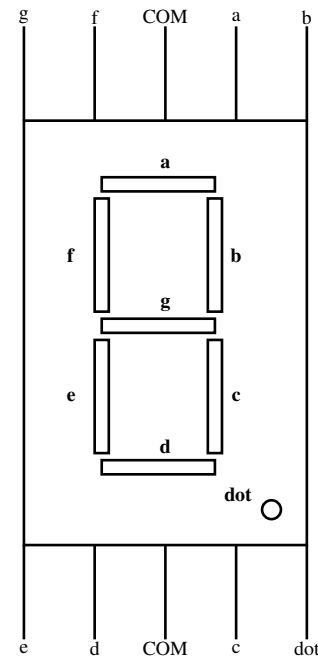

Fig. 2.1
The seven segment display in Fig. 2.1 has eight pins, *a, b, c, d, e, f, g* and *dot* that take an active LOW input, i.e. the LED will glow only if the input is connected to ground. Each of these pins is connected to an LED segment. The *dot* pin is reserved for the  $\cdot$  LED.
**Problem 2.2.** Make the pin connections in Table 2.2 using Figs. 2.1 and 2.2.